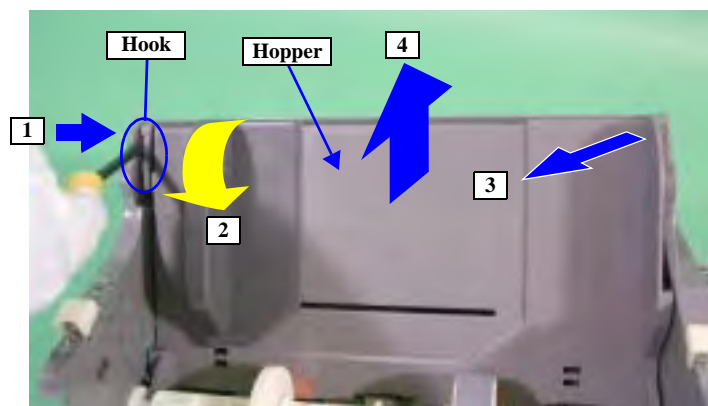

Figure 4-52. ASF Unit Disassembly 3
6. Follow the order shown in Figure 4-52 and use a common screwdriver to release the Hopper (left side) from where it is secured to the ASF Frame, then remove the Hopper from the ASF Frame.